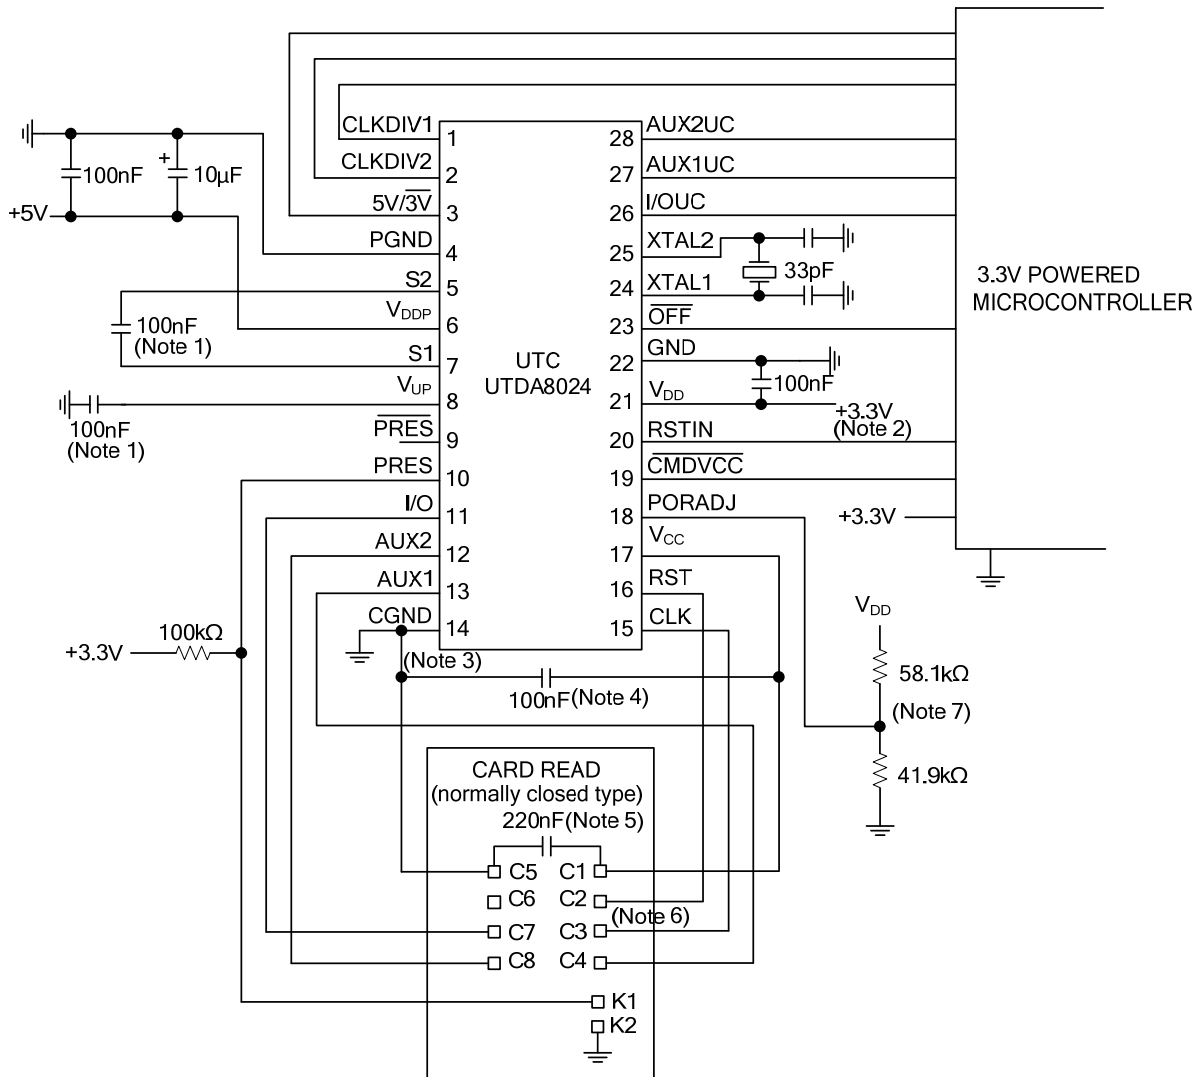

Fig. 6 Application Diagram.
3. To meet these specifications, pin V_{CC} should be decoupled to CGND using two ceramic multilayer capacitors of low ESR both with values of 100nF, or one 100nF and one 220nF (see Fig. 6)